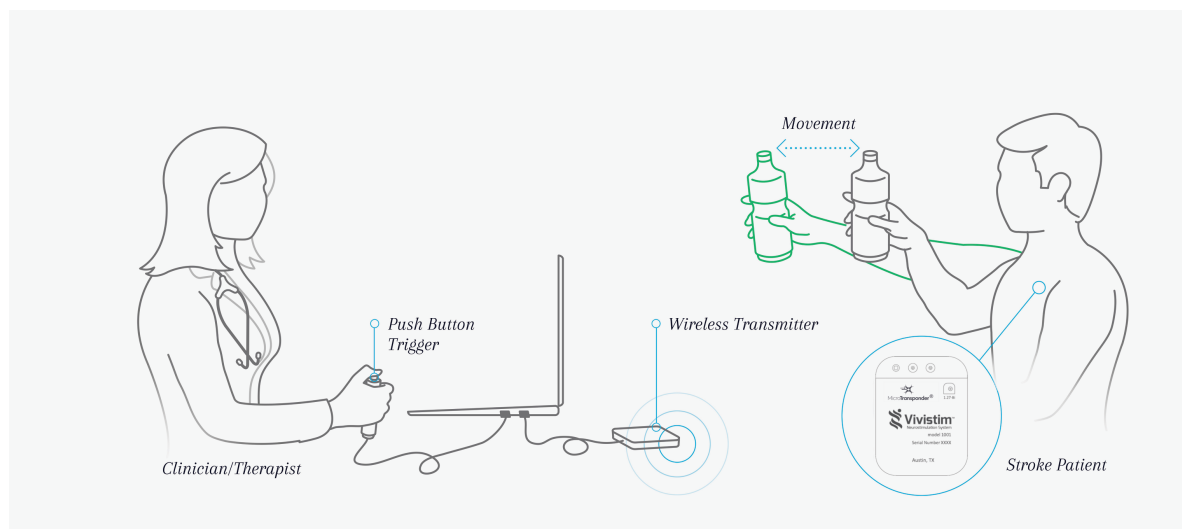

Figure 1.1: (A) Device Placement, (B) In-office Set-up
| Figure 1.1: (A) Device Placement, (B) In-office Set-up | 7 |
The non-implantable components of the MicroTransponder® Vivistim® Paired VNS™ System (Vivistim® System) include the Stroke Application & Programming Software (SAPS) and Wireless Transmitter (WT). The SAPS and the WT enable the clinician to set Paired VNS™ parameters, initiate a therapy session, and test and modify the implanted device and its settings. The complete device system (the Vivistim® System) is shown in Figure 1.1.